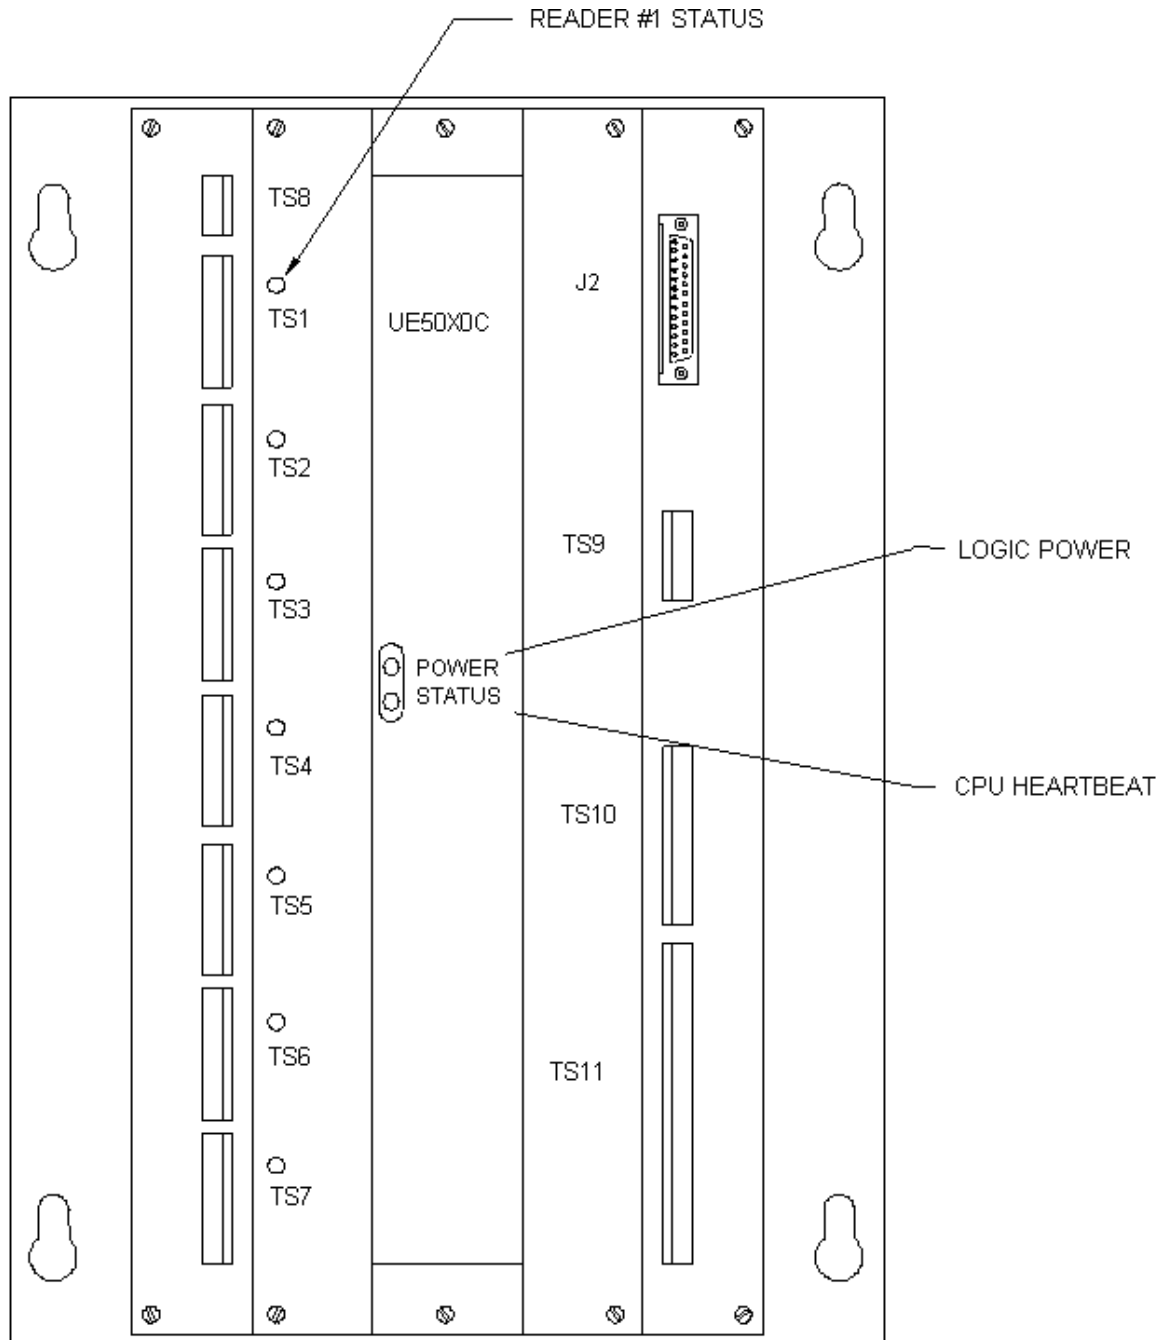

Figure 8.2.1 –Location of Concentrator Indicators
The Concentrator is equipped with nine (9) discrete LED indicators. Refer to Figure 8.2.1 for the location of these indicators.